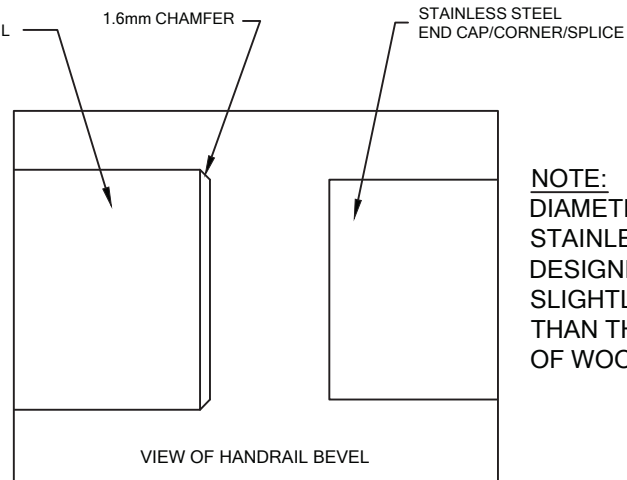

FIGURE 4.
- 6.3. DRILL PILOT HOLES IN BOTTOM SURFACE OF WOODEN HANDRAIL AS PER MOUNTING BRACKET DRILL JIG INSTRUCTIONS (SEE FIGURE 4). MOUNTING BRACKETS ARE TO BE LOCATED AT A MAXIMUM OF 813mm O.C. AND MUST BE 76mm FROM END OF WOODEN HANDRAIL AND 76mm FROM ONE END OF SPLICE. CAUTION: BE SURE THE HANDRAIL DOES NOT ROTATE WHEN DRILLING PILOT HOLE.
- 9.2. CLEAN OUTER SURFACE OF ALUMINUM SPLINE WITH ISOPROPYL (RUBBING) ALCOHOL. ATTACH SPLINE TO THE END OF HANDRAIL USING A #14 HEX/WASHER HEAD SCREW AND STAR WASHER. DRY FIT HANDRAIL TO INSIDE/OUTSIDE CORNER OR END CAP AND CHECK FOR A SEAMLESS TRANSITION BETWEEN WOOD AND METAL COMPONENTS. EASE WOOD EDGES SLIGHTLY WITH 150 GRIT SANDPAPER (SEE FIGURE 4) AND TOUCH UP SANDED EDGES WITH STAIN PENCIL.
- 2.2. CLEAN OUTER SURFACE OF ALUMINUM SPLINE WITH ISOPROPYL (RUBBING) ALCOHOL. ATTACH SPLINE TO THE END OF HANDRAIL USING A #14 HEX/WASHER HEAD SCREW AND STAR WASHER. DRY FIT HANDRAIL TO STAINLESS STEEL SPLICE AND CHECK FOR A SEAMLESS TRANSITION BETWEEN WOOD AND METAL COMPONENTS. WHEN REQUIRED, EASE WOOD EDGES SLIGHTLY WITH 150 GRIT SANDPAPER (SEE FIGURE 4) AND TOUCH UP SANDED EDGES WITH STAIN PENCIL.